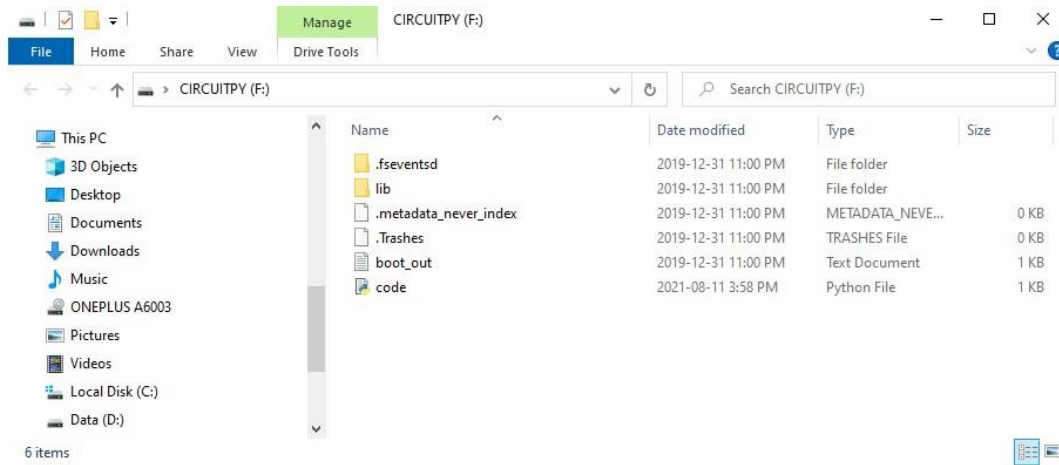

Figure 9. Files on the Raspberry Pi Pico after CircuitPython firmware installation.
4. If the transfer was successful, the drive name should change to CIRCUITPY and you should see the files shown in Figure 9. If you only see a few of them, it's okay, as on some OS's some of the files and folders may be hidden by default. If you see the *lib* folder, *boot out.txt* file, and *code.py* file, you should be good to go!